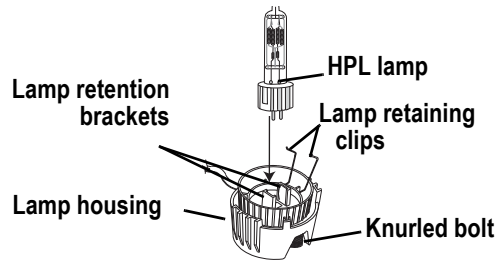

Figure 3
- Step 4: Align the flat sides of the lamp base with the retention brackets on either side of the socket as shown in Figure 3.